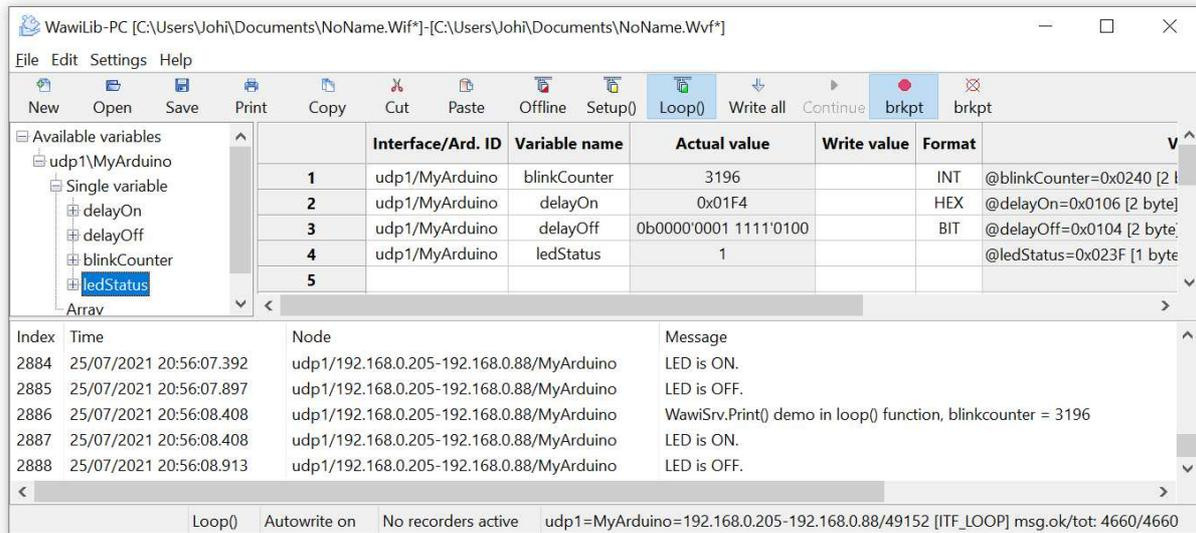

Fig. 7.1. Add variables to the grid using drag & drop.
- ✓ Modify the display format as indicated in fig. 7.1.